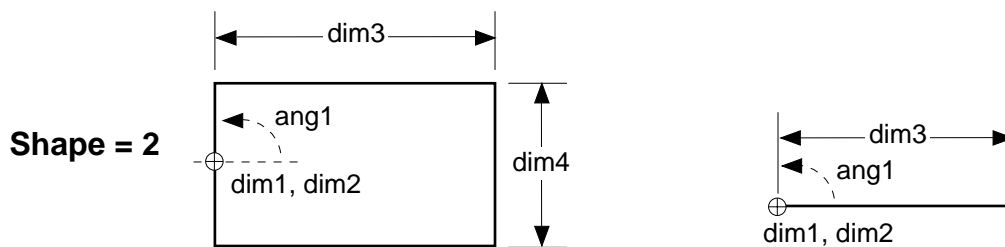
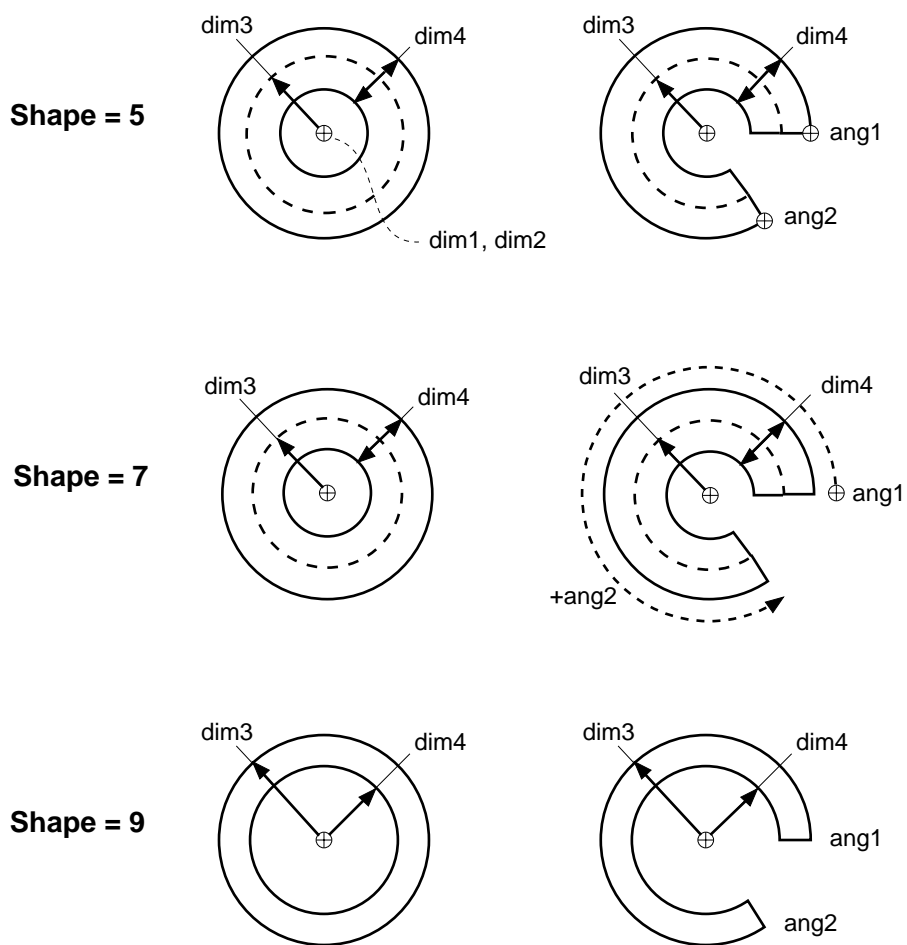

Figure 10-1. Rectangular Area-of-Interest Shapes
Figure 10-2. Arc-Shaped Area-of-Interest Shapes
**shape** defines the shape of the area-of-interest. The most common shapes are shown in Figures 10-1 and 10-2. See the AdeptVision Reference Guide for a complete description of the shapes.
Figure 10-1 shows the most common shapes for rectangular tools. Shape 1 is the normal shape for rectangular areas such as windows, line finders, point finders, etc. Shape 2 is the normal shape for rulers.1 Figure 10-2 shows the most common shapes for arc-shaped tools. Shape 5 is the normal shape for arc finders, and shape 9 is the normal shape for circular inspection windows.